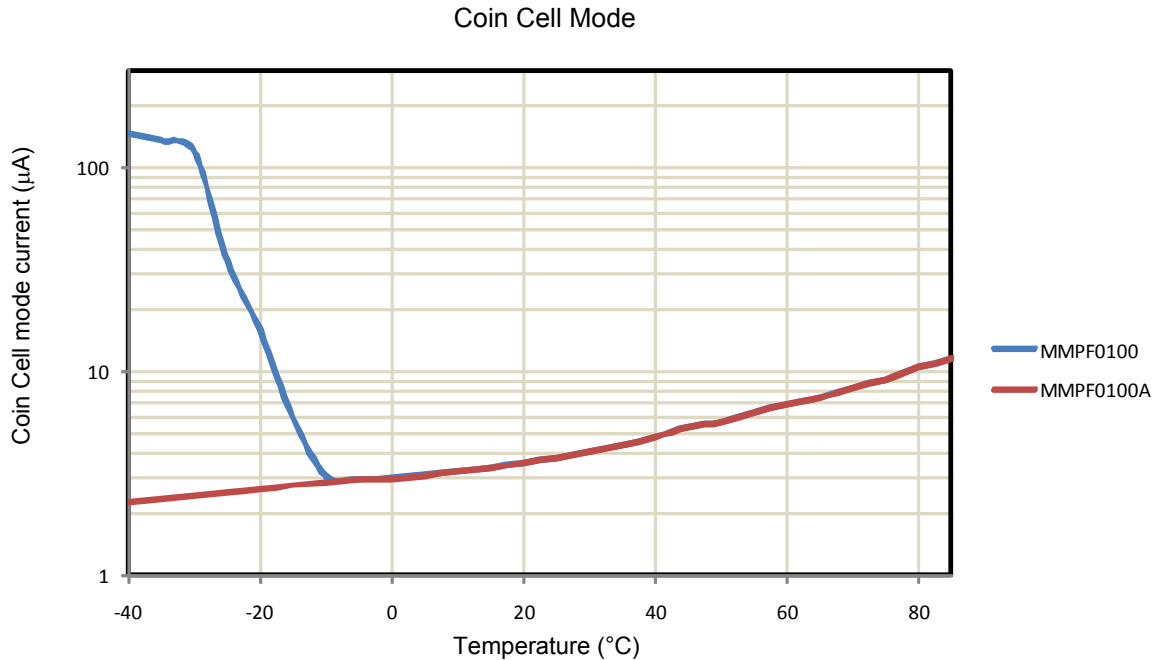

Figure 4. Current Overtemperature Waveforms
- Refer to Figure 4 for Coin Cell mode characteristics over temperature.